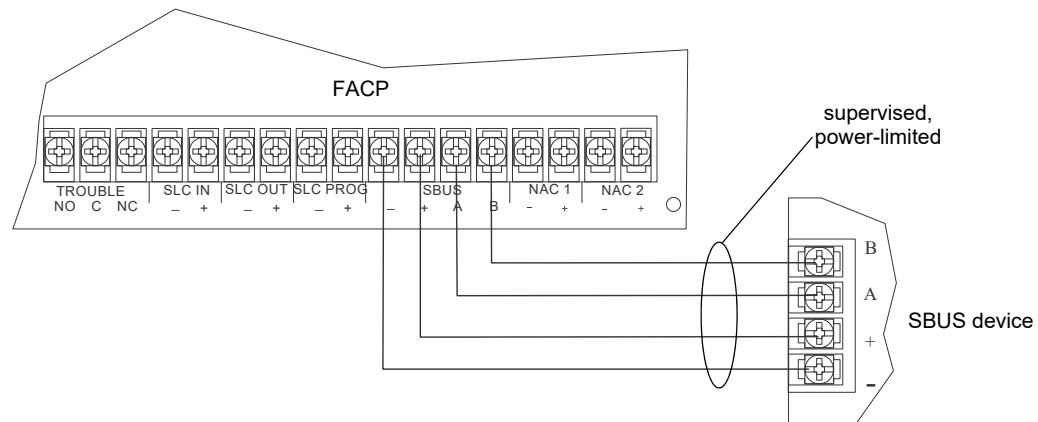

Figure 4.11 SBUS Class B Wiring
Figure 4.11 illustrates the Class B configuration.
3. Connect the RA-1000/R to the panel (see Figure 4.11).
4. After the annunciator wiring to the panel has been completed (refer to Figure 4.11), replace the electronic assembly in the back box. Place the bezel over the back box and tighten the set screws on the bezel.